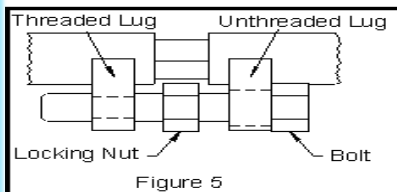

Figure 5
- INSERT BOLT** – through the unthreaded lug of the ring. Assemble the locking hex nut onto the threaded end of the bolt and tighten into the threaded lug (see Fig. 5). Close the ring to an initial gap of about 1/2".